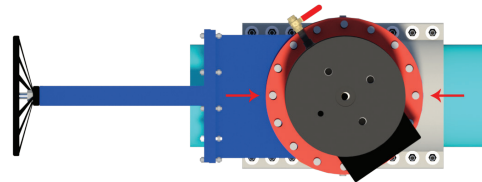

Figure 67 — Alignment nut placement for insertion housing alignment
5.1.2) Thread 2 alignment nuts onto the studs which connect the insertion housing to the temporary gate valve. Place these nuts at the locations shown in Figure 67. Install alignment nuts so that the tapered part of the nut enters the flange hole.